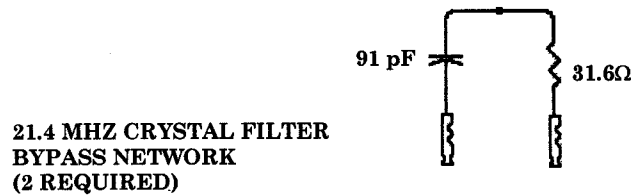
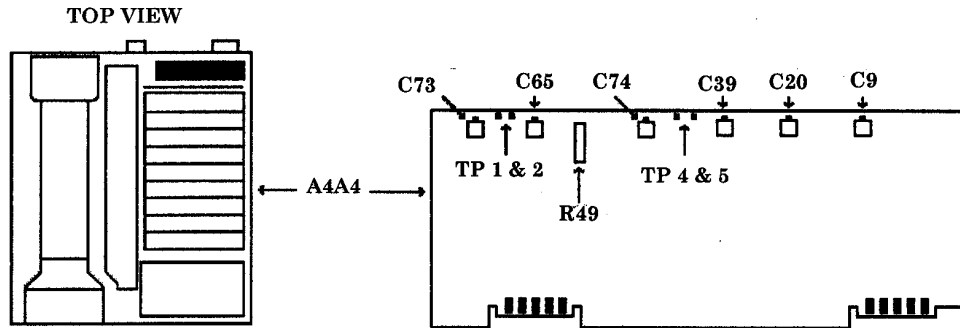
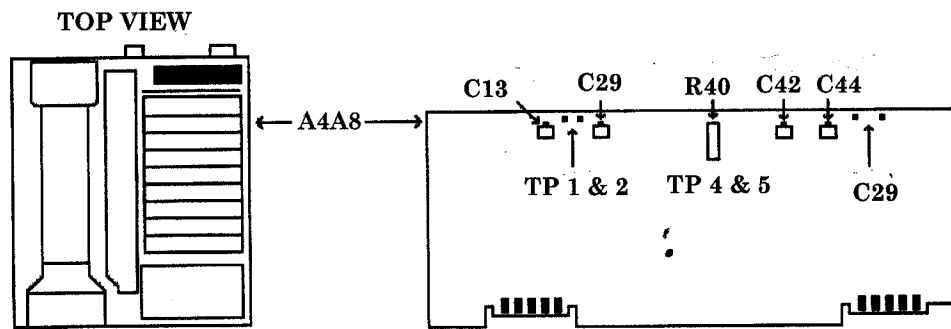

Figure 18. 21.4 MHz filter.
Figure 19. A4A4 test points.
Figure 20. A4A8 board.
The pictured filter (fig. 18) is required to continue with this adjustment routine.
- (73) Press TI keys as listed in (a) through (e) below:
- (74) Adjust TI **DATA** knob to position trace at (or just below) reference level (top graticule line).
(75) Connect 21.4 MHZ CRYSTAL FILTER BYPASS NETWORK(S) (fig. 18) between A4A4TP1 and A4A4TP2 and between A4A4TP4 and A4A4TP5 (fig. 19).
- (76) Adjust A4A4C20 (fig. 19) to center signal on center vertical graticule line.
- (77) Adjust A4A4C9 (fig. 19) for best symmetry of signal.
- (78) Remove 21.4 MHZ CRYSTAL FILTER BYPASS NETWORK(S) (fig. 18) from between A4A4TP4 and A4A4TP5 (fig. 19).
- (79) Adjust A4A4C74 (fig. 19) to center signal on center vertical graticule line.
- (80) Adjust A4A4C39 (fig. 19) for best symmetry of signal.
- (81) Remove 21.4 MHZ CRYSTAL FILTER BYPASS NETWORK(S) (fig. 18) from between A4A4TP1 and A4A4TP2 (fig. 19).
- (82) Adjust A4A4C73 (fig. 19) to center signal on center vertical graticule line.
- (83) Adjust A4A4C65 (fig. 19) for best symmetry of signal.
- (84) Press TI keys as listed in (a) through (c) below:
- (85) Adjust A4A4R49 (fig. 19) to align markers on TI display. **MKR D** level should indicate 1.00X.
(97) Press TI keys as listed in (a) through (c) below:
(98) Connect 21.4 MHZ CRYSTAL FILTER BYPASS NETWORK(S) (fig. 18) between A4A8TP1 and A4A8TP2 (fig. 20).
(99) Adjust A4A8C44 (fig. 20) to center signal on center vertical graticule line.
- (100) Adjust A4A8C42 (fig. 20) for best symmetry of signal.
- (101) Remove 21.4 MHZ CRYSTAL FILTER BYPASS NETWORK(S) (fig. 18) from between A4A8TP1 and A4A8TP2 (fig. 20).
- (102) Connect 21.4 MHZ CRYSTAL FILTER BYPASS NETWORK(S) (fig. 18) between A4A8TP4 and A4A8TP5 (fig. 20).
- (103) Adjust A4A8C29 (fig. 20) to center signal on center vertical graticule line.
- (104) Adjust A4A8C13 (fig. 20) for best symmetry of signal.
- (105) Remove 21.4 MHZ CRYSTAL FILTER BYPASS NETWORK(S) (fig. 18) from between A4A8TP4 and A4A8TP5 (fig. 20).
- (106) Press TI keys as listed in (a) through (c) below:
- (107) Adjust A4A8R40 (fig. 20) to align markers on display. **MKR LVL** should indicate 1.00X.
- (108) Press TI **2-22 GHz** key.
- (109) Set attenuators for 25 dB.
- (110) Press TI keys as listed in (a) through (h) below: